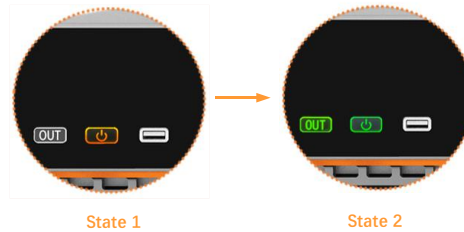

Figure 130 Power-On Process Diagram
Step 3: Connect to the power grid, ensure the front panel power/reset button indicator light turns yellow, indicate the standby state, see Figure 130 State 2.
Press and hold the power/reset button until the indicator turns green, indicating the standby state, see Figure 130 State 2, which completes the product power-on.